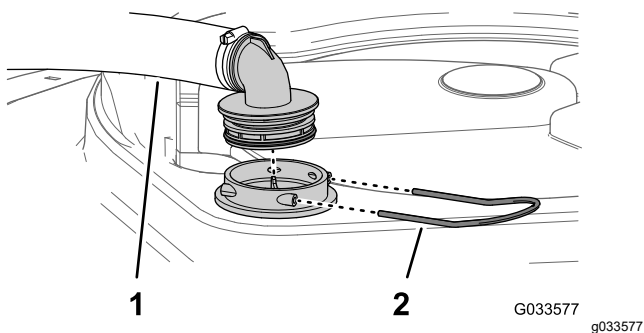

Figure 113
2. At the top of the sprayer tank, remove the retainer that secures the hose fitting attached to the large hose from the filter housing (Figure 113).
3. Remove the hose and hose fitting from the filter housing (Figure 113).